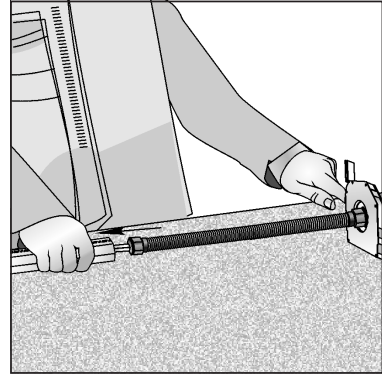

Fig. 10
- c) Mark and drill three X 6,5 mm through holes in the covers to install RGH/77 guide rollers. Make counterbores for screw heads at the outer side of the cover (Fig. 10 -12);